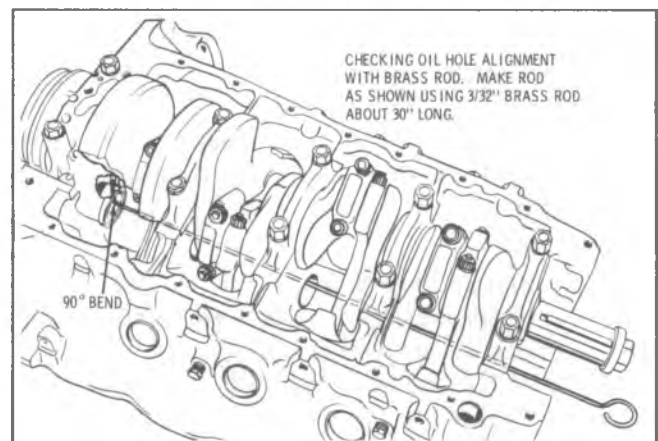

Fig. E-86—Checking No. 5 Oil Hole
2. Use a piece of $3/32$ " brass rod with a 90° bend at the end to check the oil hole opening as shown in Fig. E-86.
7. Use a piece of $3/32$ " brass rod with a 90° bend at the end to check all oil hole openings. Wire must enter hole or the bearing will not receive sufficient lubrication. (Fig. E-86)